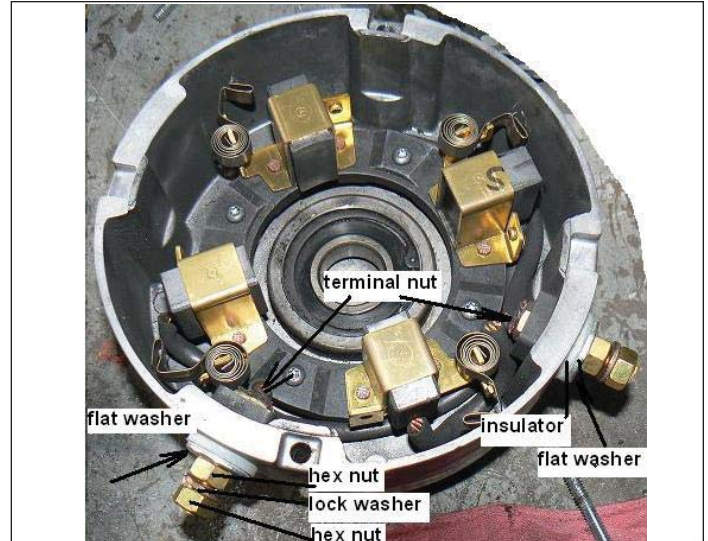

Figure 10-6. Brushes and Terminal Attaching Parts
- Remove 1 hex nut, 1 lock washer 1 hex nut, 1f at washer and 1 insulator at each brush terminal, A1 and A2. Figure 10-6.